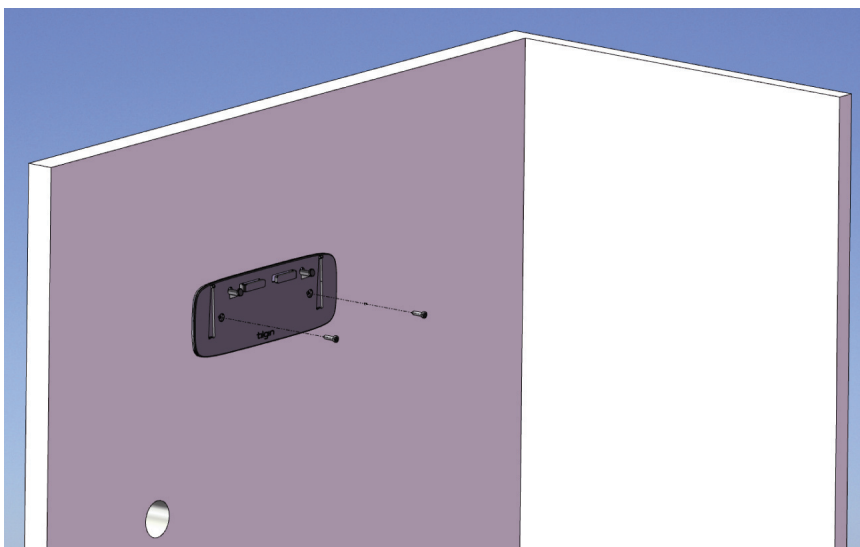

Fig. 3
1. Use the foot stand/wall bracket to mark the drill holes. Fig 3.
2. When you have marked the drill locations on your wall, drill two holes and mount the wall bracket with two suitable screws. Fig 3